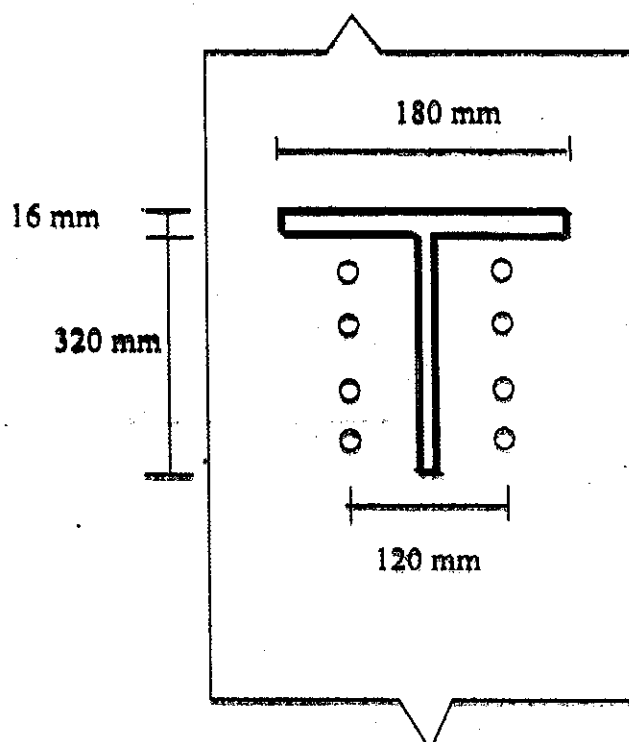

Fig.3: Bolted Bracket Connection
- b) One T bracket section is connected to the flange face of the column by 8 Nos of 20 mm dia. MS clear Bolts @ 80 C/C as shown in Fig 3. The bracket carries a load of 400 kN at a distance of 120 mm from face of the column flange. Check the safety of the joint and comment if any. The permissible stress for shear & tension of the bolt are 80 Mpa & 120 Mpa respectively. 25